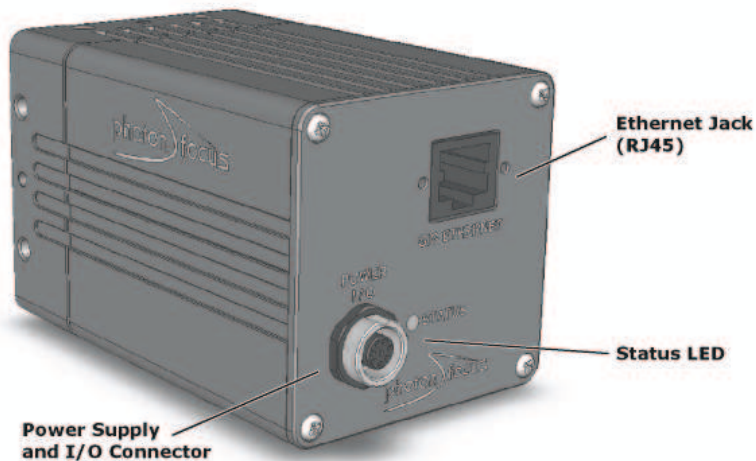

Figure 2.2: Rear view of the GigE camera MV1-D1312(I)-40-GB with power supply and I/O connector, Ethernet jack (RJ45) and status LED
6. Connect the power supply to the camera (see Fig. 2.2).